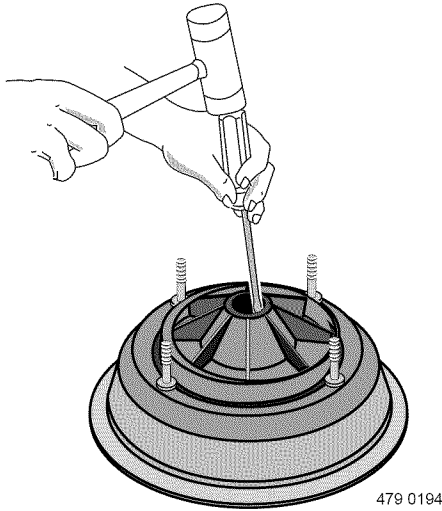

Figure 6
4. Place back half of pump on flat surface and tap out ceramic seat. See Figure 6.